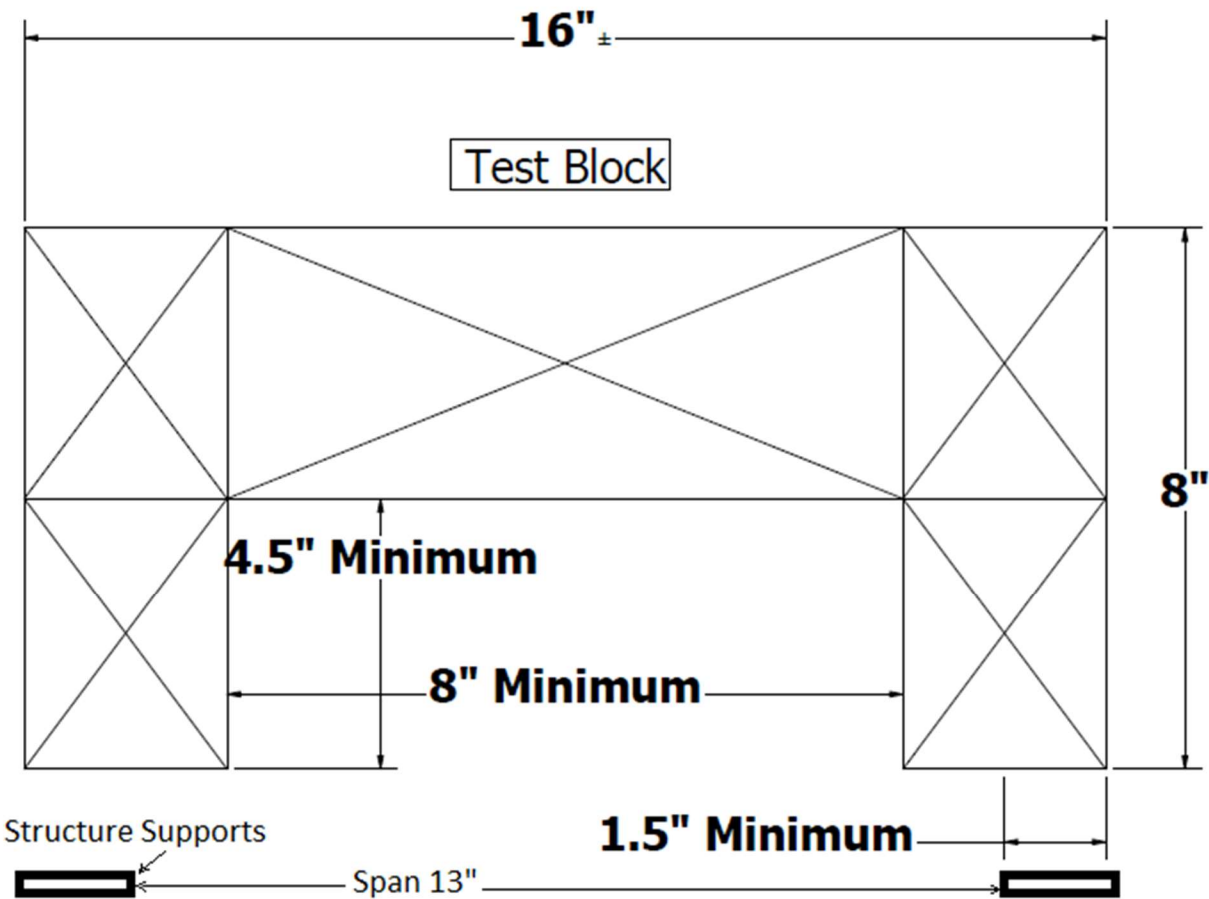

Figure 1
6. Each bottom end (foot) of the structure must be a minimum of 1 1/2" long (see **Figure 1**).